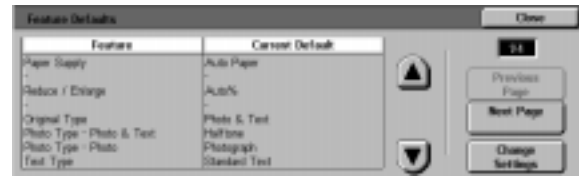

Figure 14: Feature Defaults screen
- 1 On the Tools screen, touch the **Feature Defaults** icon to display the Feature Defaults screen, as illustrated in Figure 14.